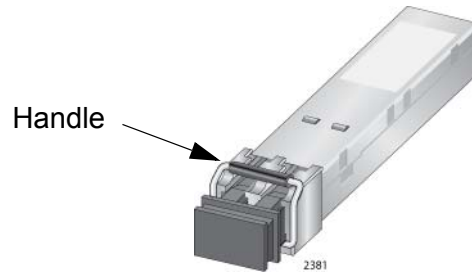

Figure 86. Handle on SFP Transceiver
- To install the transceiver in an SFP slot on the top row of the line card, orient the transceiver with the handle on top, as shown in Figure 86. To install it into a slot on the bottom row of the line card, orient it with the handle on the bottom.